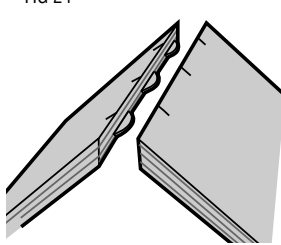

FIG 25
- Set up tool by first setting fence angle to 90°. Make the fence adjustment such that the biscuit is located toward the inside of the joint where the material is thicker, then select the biscuit size so that the blade does not protrude through the outside wall when the cut is made (see Figure 25).